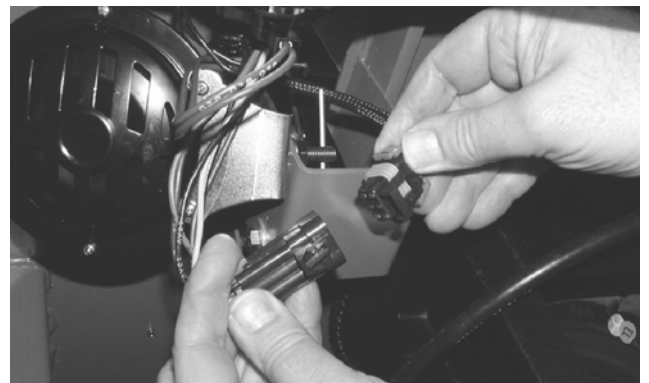

FIG. 2
1. Disconnect the direction pedal wire harness from the machine wire harness. The connectors are located under the front of the machine behind the horn. Refer to Fig. 2.
20. Reconnect the direction pedal wire harness to the machine wire harness. Refer to Fig. 2.